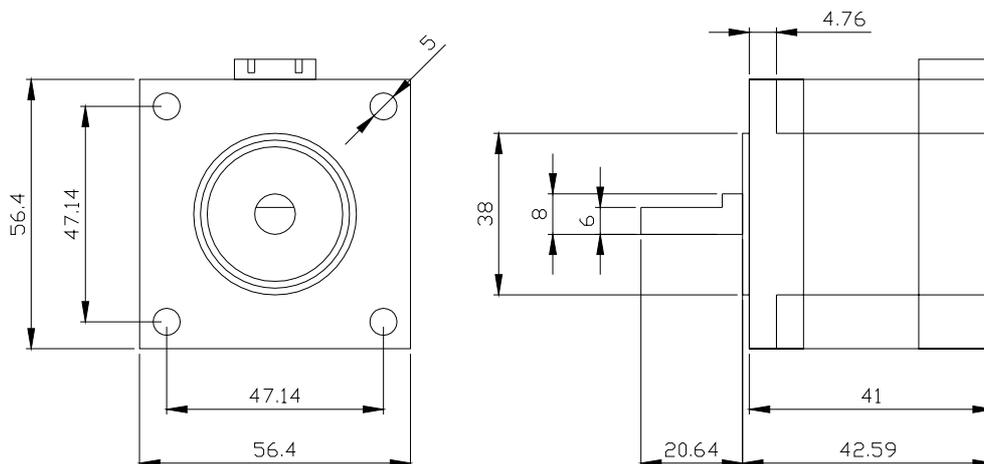

Figure 4-2
- They have the same mechanical dimensions (see Figure 4.2 below).